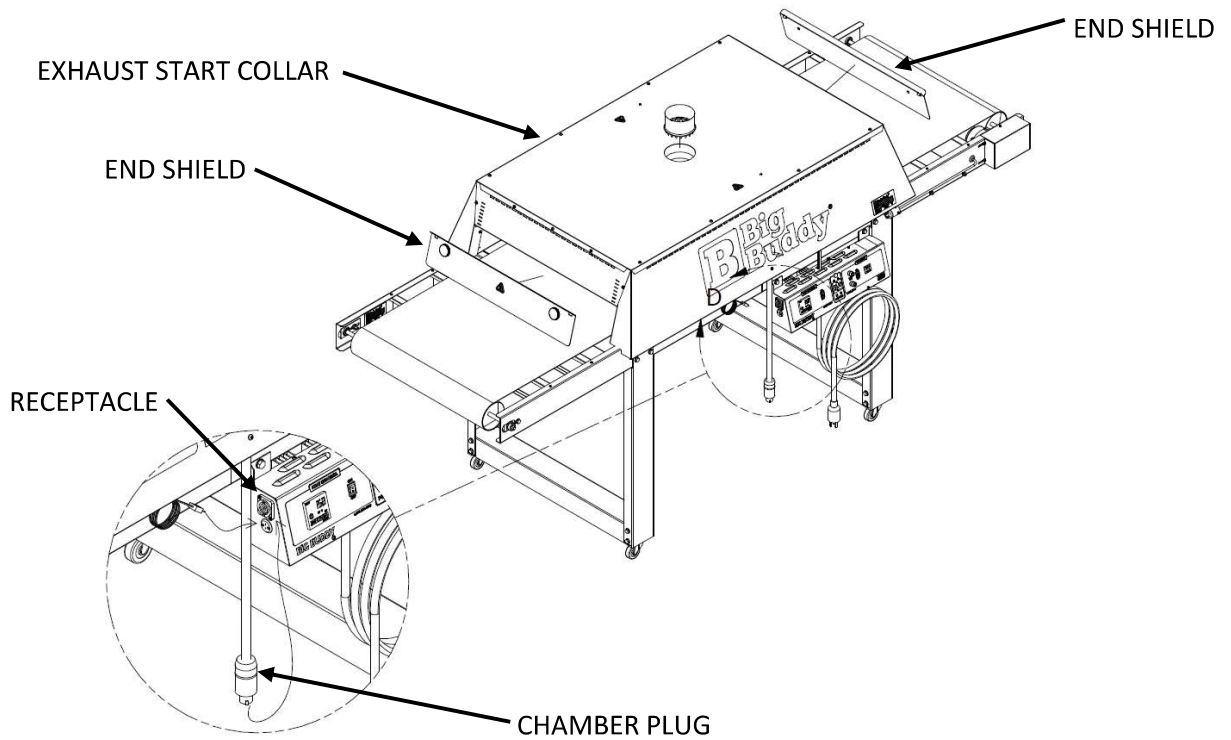

Figure 8
3. Insert the **EXHAUST START COLLAR** into the hole in the top of the **HEATING CHAMBER** (see **Figure 8**). Once in position, bend the tabs at the base of the **COLLAR** outward to secure it in place. Optional Exhaust Kit (LB02-EX) available.
5. Plug the **HEATING CHAMBER CORD** into the **RECEPTACLE** on the **CONTROL PANEL** (see Magnified View, **Figure 8**, image of plug/receptacle may be different).